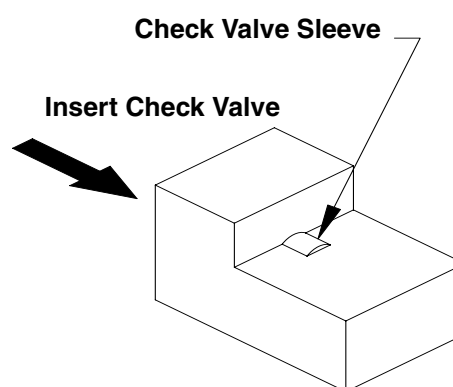

FIG. 24: Sleeve Removal Block
- c. Remove damaged check valve sleeve. Remove ball and spring. Insert check valve into check valve sleeve removal block (FIG. 24). While holding block, and keeping pressure on head of check valve, slice check valve sleeve with razor knife at a 10 - 15 degree angle rel-